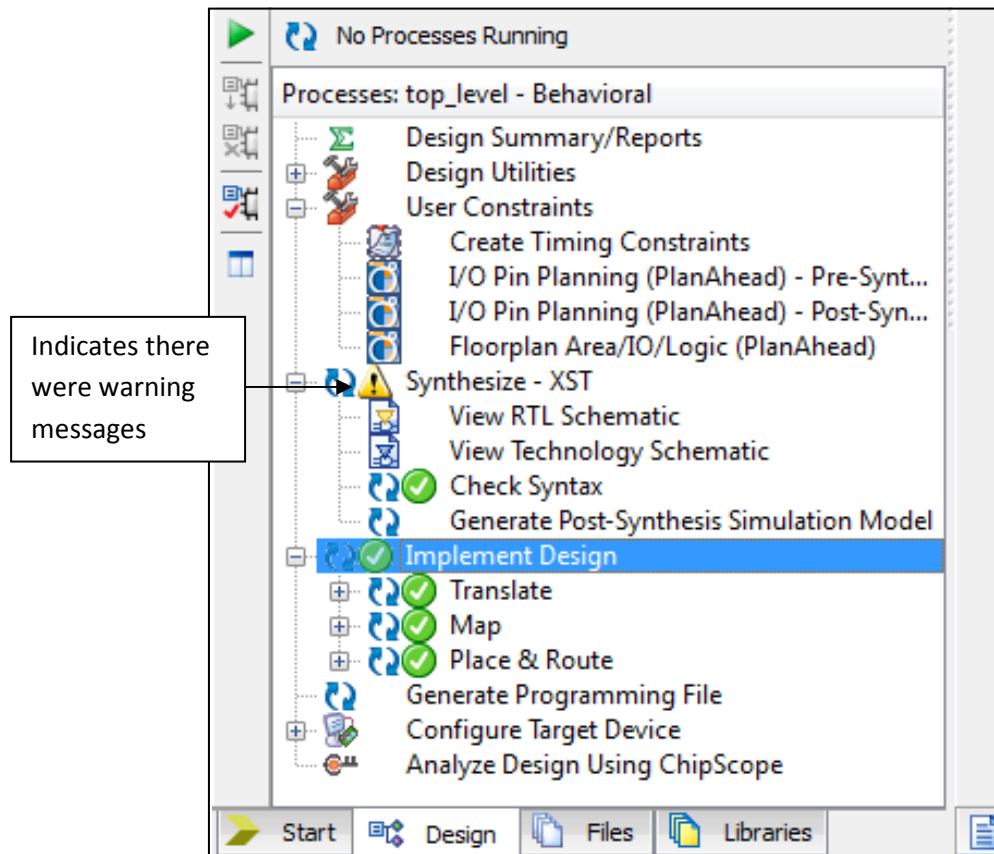

Figure 6.46: Portion of Project Navigator screen, with Implement Design expanded, after Translate, Map and Place & Route have successfully been run.
2. Double-click on Implement Design. This will first cause Synthesize – XST to run. Next, Translate, Map and Place & Route will run in turn. As each stage is completed, a green tick will appear next to it. If there are warning messages at any stage, a yellow icon with an exclamation mark will appear. The user can inspect these warning messages and decide whether they are critical to the design. After all three stages are complete, the Project Navigator screen will appear as shown in Figure 6.46.